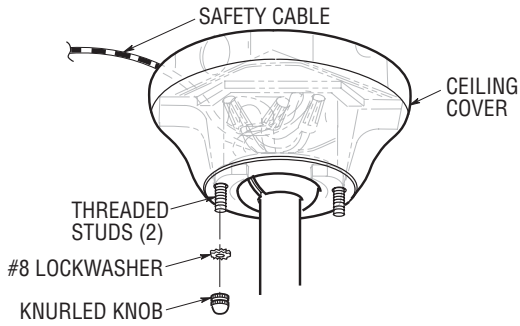

Figure 9
- 14. Lift the ceiling cover up to the threaded studs and turn until studs protrude through the holes in the ceiling cover (Figure 9).
- 15. Secure the ceiling cover in place by sliding lockwashers over the threaded studs and installing the two knurled knobs (supplied) (Figure 9). Tighten the knurled knobs securely until the ceiling cover fits snugly against the ceiling. Your fan is now wired to be turned on and off from the wall switch.